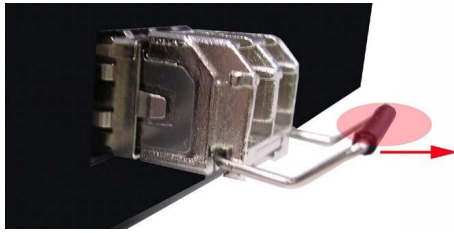

Figure 2.9 - Pull Out from the SFP Module
2. Push down the metal clasp and pull the transceiver out by the plastic part as shown below in *Figure 2.9*.